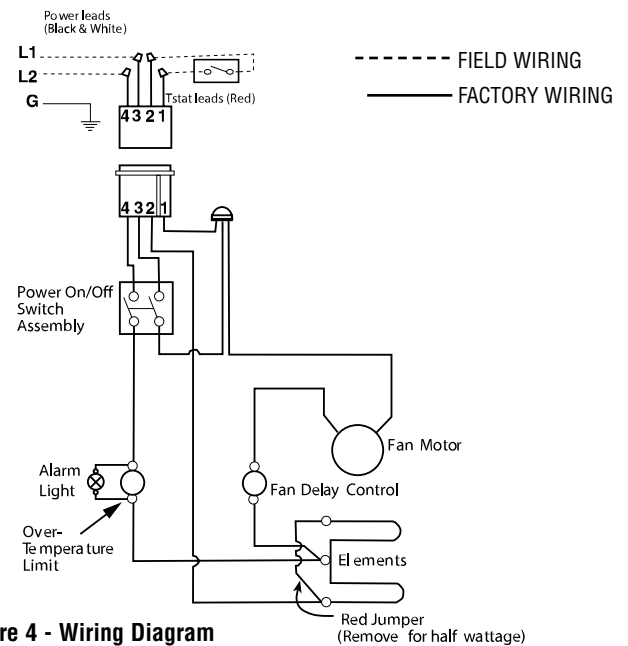

Figure 4 - Wiring Diagram
1. Following wiring diagram (Figure 4) connect supply wiring and thermostat wiring to heater lead wires in back box.
3. Fit heater/fan assembly into back box and secure in place with (2) screws provided through the center slots in the fan assembly.